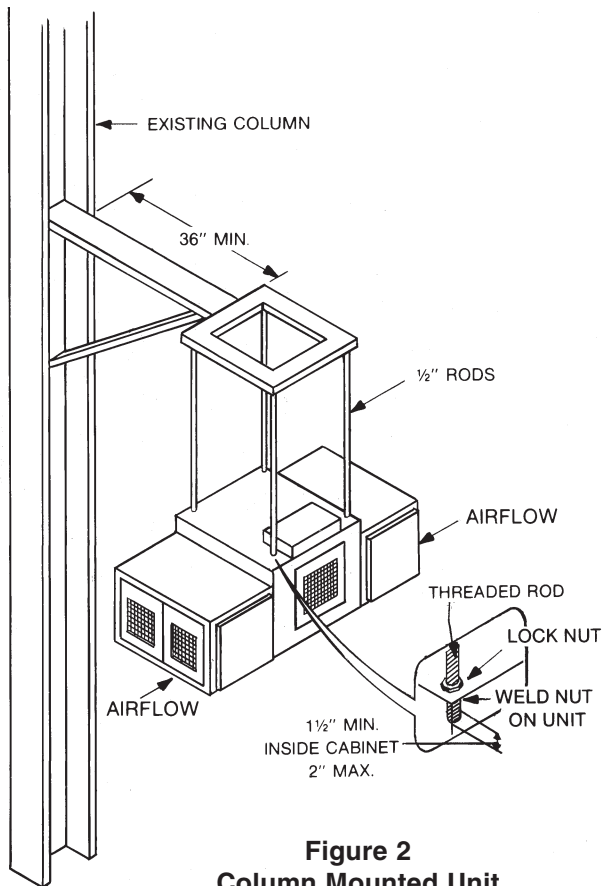

Figure 2
C. Column or Wall Mounting. Figure 2 shows an SHN-50 (T-shaped) unit suspended from a cantilevered frame from which the 1/2" threaded rods are suspended. Rods are threaded into weld nuts located at the corners of the blower cabinet. Rod length should be kept to a minimum.